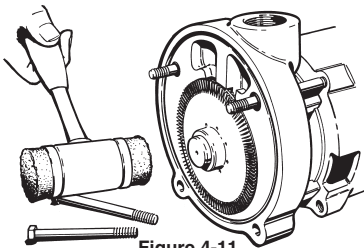

Figure 4-11
4. Remove the impeller(#11), refer to Figure 4-11. This is easily done by setting the motor on end. The impeller is a slip fit and under normal conditions, can be removed by hand or by gently tapping on the end of the shaft with a mallet. Striking the shaft too hard could damage the seat, rotating element, or the motor. After removing